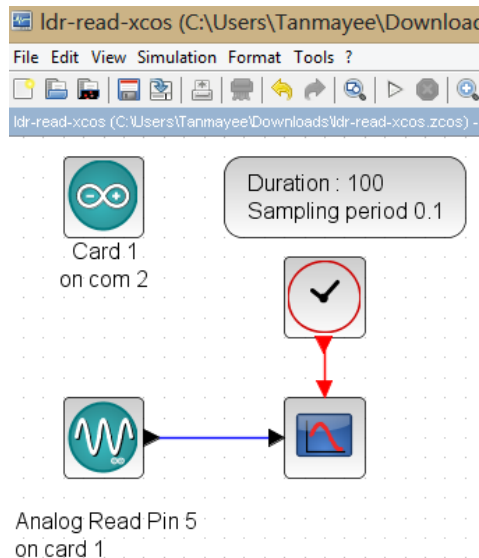

Figure 6.3: Xcos diagram to read LDR values. This is what one sees when `Origin/user-code/ldr/scilab/ldr-read.zcos`, see Footnote 2 on page 2, is invoked.
1. The Xcos diagram in Fig. 6.3 performs data acquisition from analog pin 5 and displays the read values on the scope. When the file required for this experiment is invoked, one gets the GUI as in Fig. 6.3. In the caption of this figure, one can see where to locate the file.